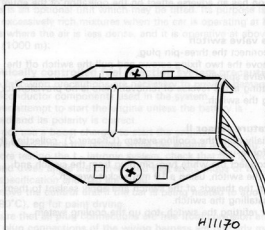

Fig. 13.69 Compensating resistors (Sec 8)
- 137 The compensating resistors are protected by a cover secured with two screws (Fig. 13.69).